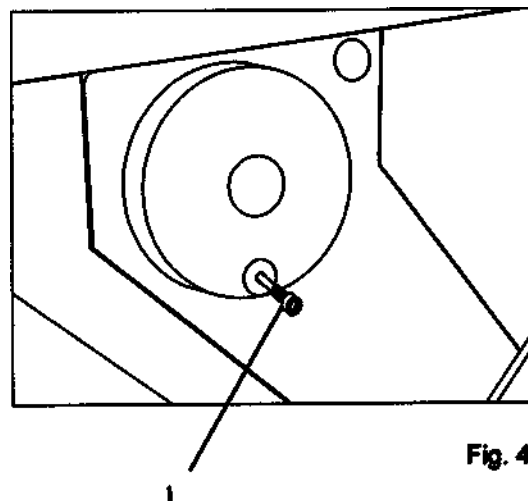

Fig. 4b
Instead of the handwheel handle, a transportation screw (fig. 4b.1) is inserted into the handwheel. This way, the handwheel is tightly and securely connected with the housing of the cryostat. It is **absolutely necessary to remove this transportation screw before the initial turn-on!**
- Loosen the transportation screw (fig. 4b.1) via the Allan key, size 6.